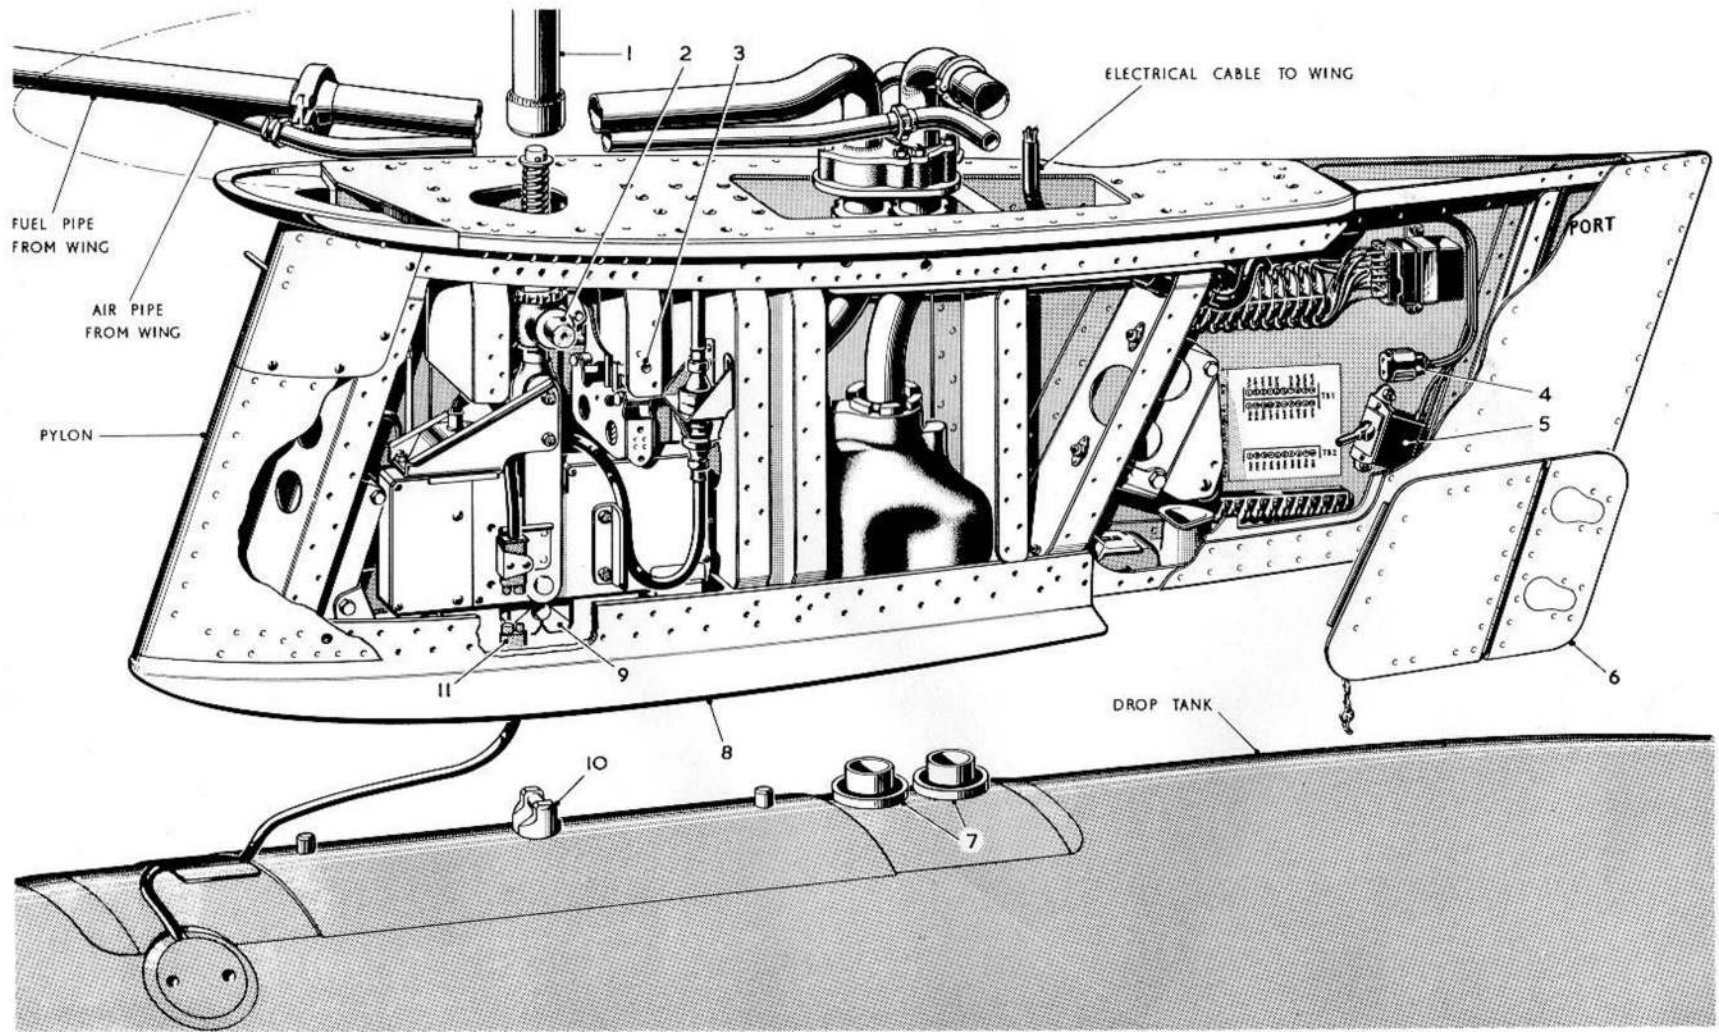
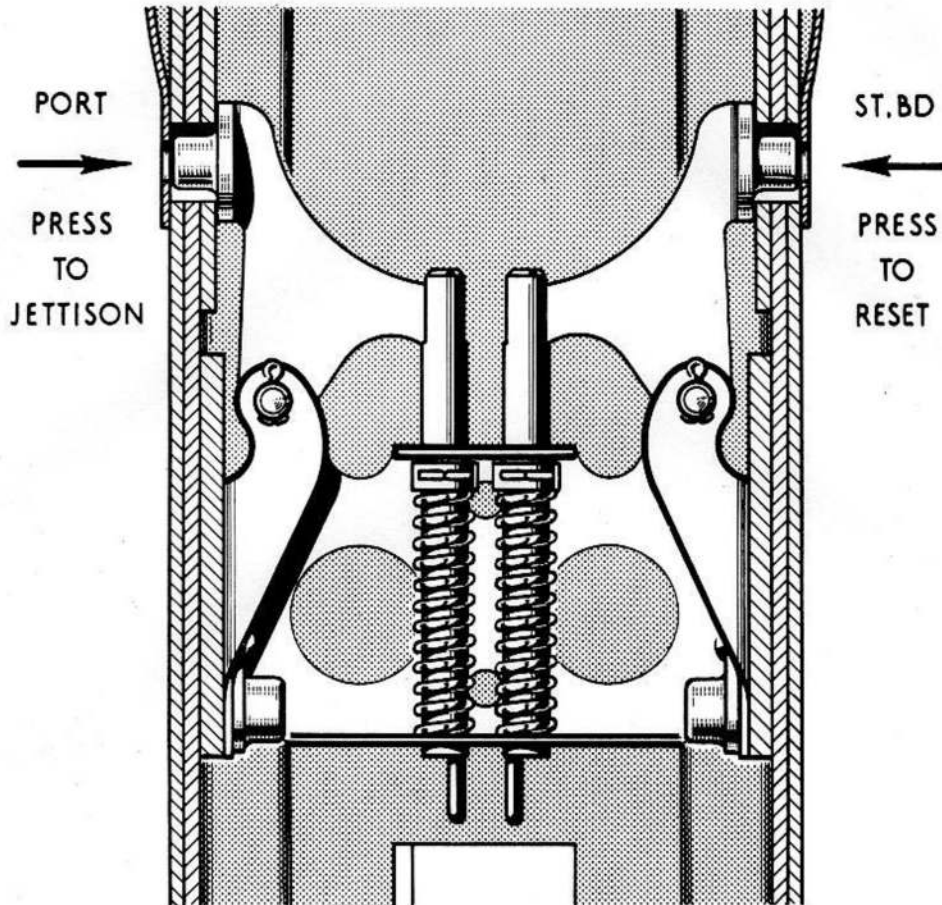

FIG. 3 FITTING DROP TANK
FIG. 4 JETTISON AND RESET
31. The procedure for fitting the drop fuel tanks, the sequence for which must be strictly adhered to, is illustrated in fig.3. The jettison and reset mechanism is illustrated in fig.4.
## FITTING DROP TANK (Port described Stbd. similar) FIG.3.
2. Remove rear door (6) on outboard side of pylon and check that the change over switch (5) is in the DOWN position.
3. If the electro-mechanical release (9) is not open, press jettison button (3) shown also on fig.4, on port side of pylon and then reset by pressing the reset button on the stbd. side of pylon. (Should the electro-mechanical release be already open, only the reset button on the stbd. side should be used.)
4. Remove the access panel in the wing top skin and attach a crutching spanner (1) HAWKER Part No. B.204233 to the release housing support (2) and lower release housing.
5. Connect plug (11) on drop tank to socket in pylon.
6. Raise the tank until the tank lug (10) is engaged by electro-mechanical release (9).
7. Now, by means of the crutching spanner (1) raise the tank until the fore and aft spigots are engaged in the holes provided in the sole plate (8) and the tank adaptors (7) are making contact with the fuel and air valves in the valve body and check that the electrical cable from the tank to the plug (11) is not trapped between the tank and the sole plate.
9. Check that the release is fully locked by means of the cocking test socket (4).
11. Replace the rear door (6).
1. Support the drop tank and press the jettison button (3) and Fig.4, on the port side of pylon.